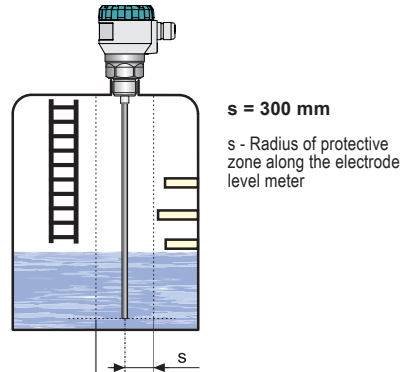

Fig. 12: Level meter installation outside obstacles in the tank
- The level meter generates electromagnetic guided wave, which creates an electromagnetic field along the electrode. Objects placed close to the electrode disturb the electromagnetic field and thus affect the measurement. Therefore, it is determined protective zone along the electrode of radius 300 mm. The level meter is recommended to install the tank so that the items placed inside the tank (ladders, various partitions, mixers, etc.) does not intervene into the protective zone, see Fig. 12.